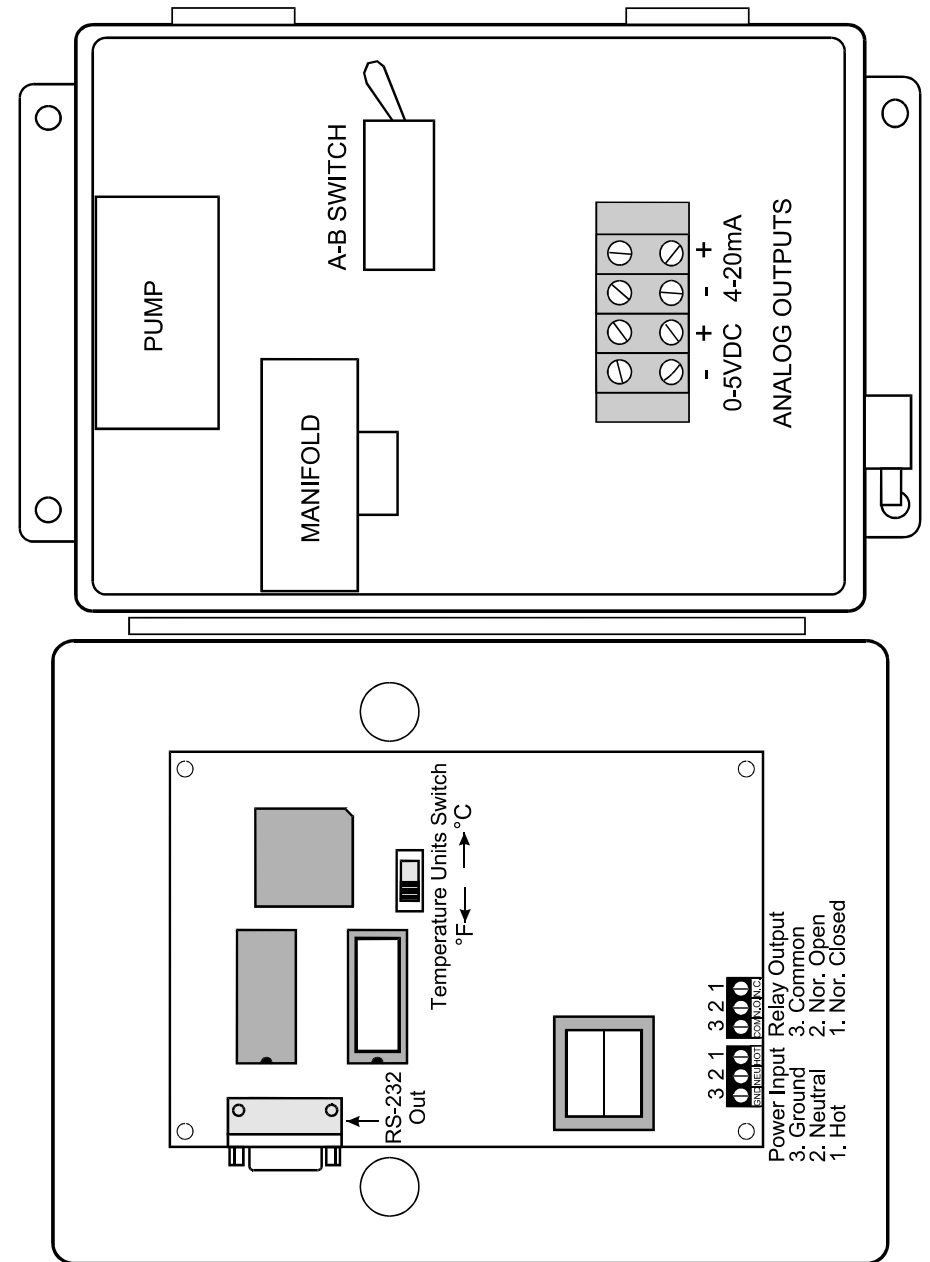

Figure 2
2. Electrical connections will be made via two ½" conduit cutouts in the bottom of the unit. We recommend that low-voltage signals (analog outputs, remote alarms, etc.) be routed separately from high-voltage (line power, controlled device, etc.). For all connections, refer to the layout in Fig. 2 (Page 9). The 120 VAC line and controlled relay contact terminals are located on the main circuit board and are labeled as to their function. The analog output (0-5 VDC & 4-20mA) terminals are located on the back panel, and are also labeled. For output values refer to output table on Page 10.
Place the selector switch on the main circuit board in the desired position (see Figure 2) for either °C or °F operation. Whenever this switch is changed, the setting will not be implemented until the unit is reset by shutting off the power and reenergizing the circuit.